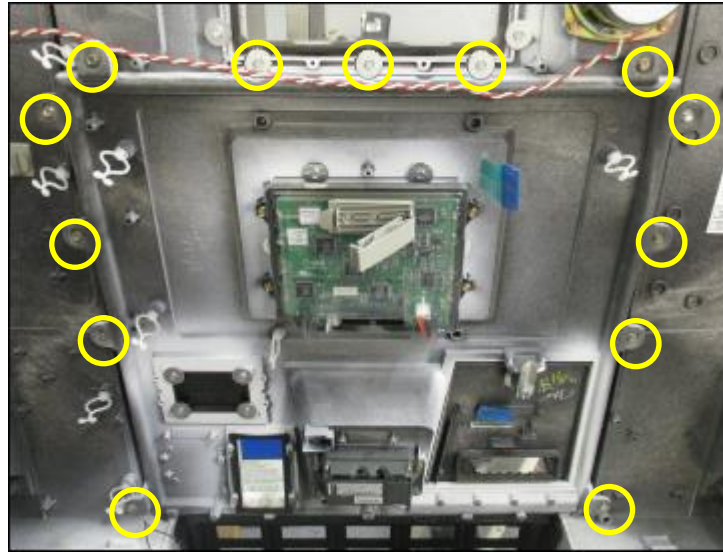

Fig 1.15 – Location of CIM Panel screws
- 17.** Remove and discard the three #6 self-tapping screws and washers immediately below the CIM panel Display Window, and the 10 #6-22 x 1/2" self-tapping screws fastening the CIM panel to the Dispenser Door. (Fig 1.15)